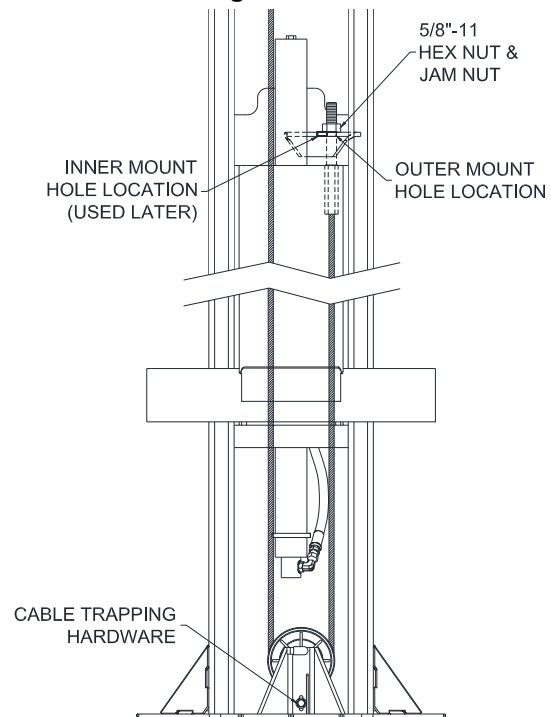

Fig. 2 – Cable Routing LAYOUT
- Remove hex bolt and cable trapping pin from sheave bracket, **Fig. 2**.